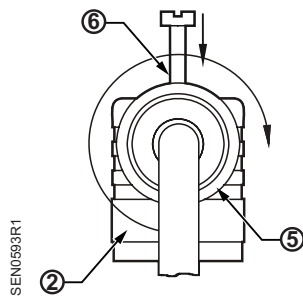

Figure 10.
- Put the central screw ⑥ in the cable socket ②, and tighten the screwed conduit adapter ⑤. See Figure 10.